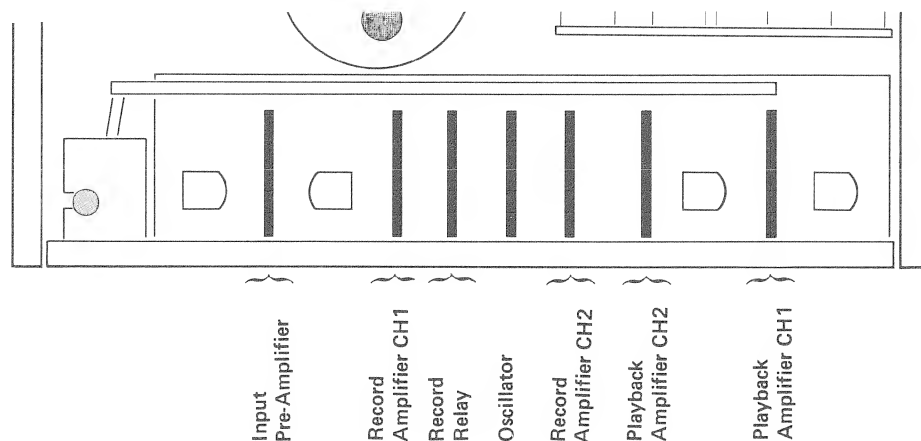

Fig. 3.10—14
- Remove plug-in amplifiers (fig. 3.10).